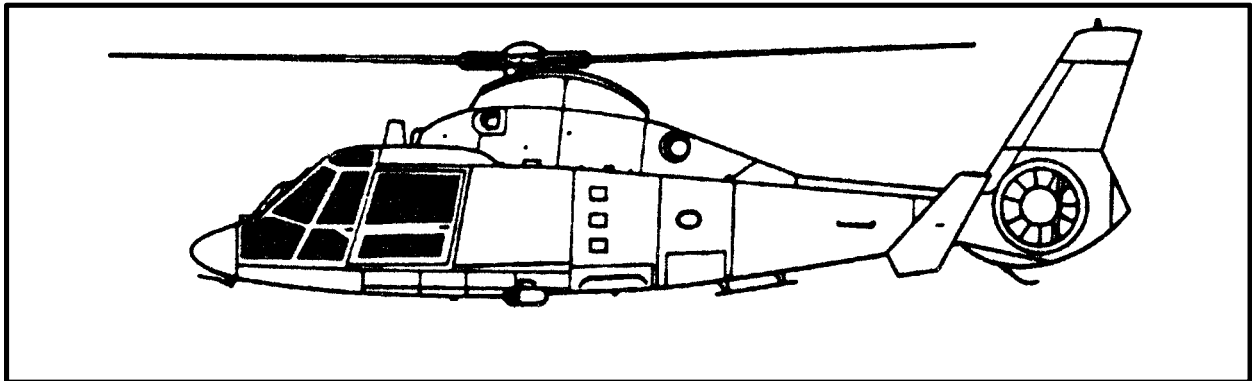
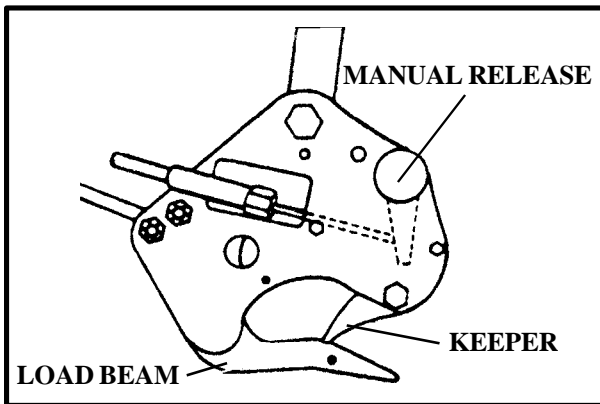

Figure 2-23. H-65A Dolphin
Figure 2-24. HH-65A Cargo Hook System
(2) The apex fitting spacer must be used when transporting loads rigged with the 10,000-pound capacity sling set. If the apex fitting pin spacer is not installed, the pin can oscillate under and lift the cargo hook keeper and the apex fitting can slide off the cargo hook. Remove the spacer on the 25,000-pound capacity sling set because it will not fit in the cargo hook opening and the pin is too big to oscillate under and lift the cargo hook keeper.
**i. HH-65A.** The HH-65A Dolphin (Figure 2-23) is a twin engine, single main rotor helicopter manufactured by Aerospatiale Helicopter Corporation. The primary mission of the HH-65A is search and rescue, but it also has a limited utility capability.
(1) The flight mechanic stands at the right door of the cabin to direct the pilot over the load. The ground crew should approach and depart the helicopter from the right so the flight mechanic can monitor their position.
(2) The cargo hook (Figure 2-24), rated at 2,000-pound capacity, is mounted on the underside of the helicopter directly below the main rotor. The aircrew can open the cargo hook electrically or manually. A manual release knob is located on the right-hand side of the hook. In an emergency, the ground crew can rotate the manual release knob clockwise to open the cargo hook.